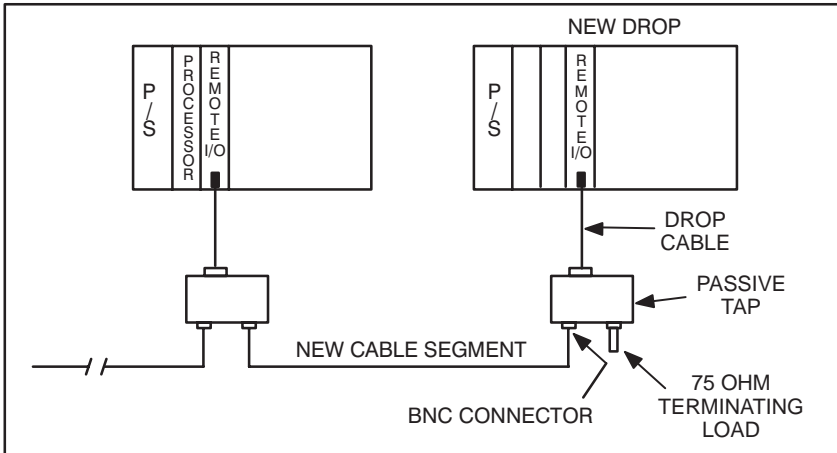

Figure 3.26 - Adding a New Rack Drop to the End of the Remote I/O Network (Coax)
- Step 5. Refer to figure 3.26 and use the following procedures if a new rack drop is to be added to one of the ends of the network. Go to step 6 if a rack drop is to be added along the cable route.